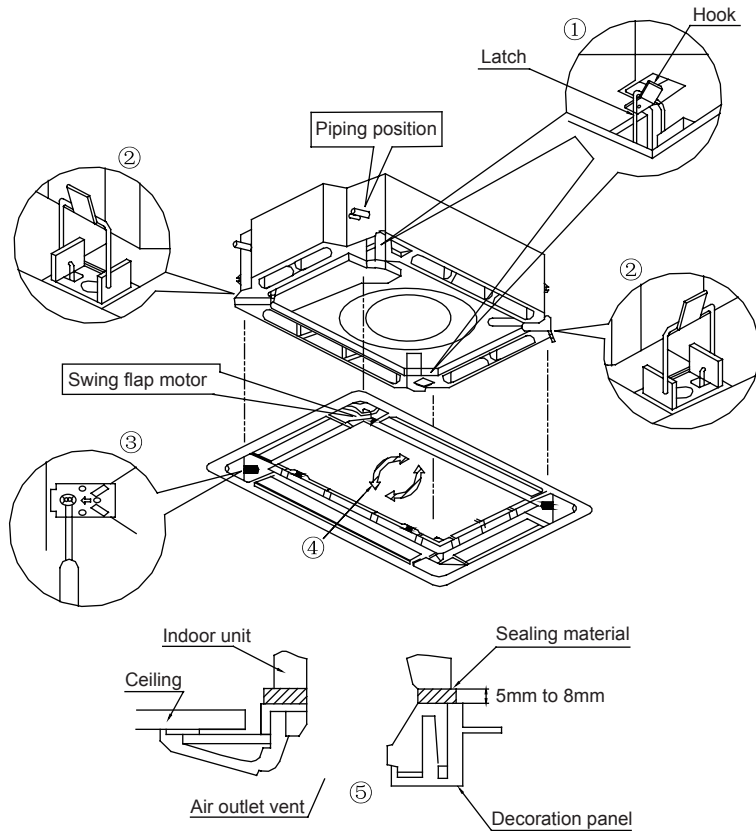

Fig.13
1. Set the panel to the indoor unit body by matching the position of the swing flap motor of the panel to the piping position of the panel to the piping position of the indoor unit as shown by Fig.13.
- (1). Install the panel on the indoor unit temporarily. When install, hang the latch on the hook that is located on the opposite side of the swing flap on the panel of the indoor unit. (2 positions)
- (2). Hang the remaining 2 latches to the hooks on the sides of the indoor unit.(Be careful not to let the swing motor lead wire get caught in the sealing material.)
- (3). Screw the 4 hexagon head screws under the latches in about 15mm. (The panel would rise)
- (4). Adjust the panel by turning it toward the direction pointed by the arrow as shown in Fig.13, so that the adjust board connect the ceiling well.
- (5). Tighten the screws until the thickness of the sealing material between panel and indoor unit reduced to 5-8mm.